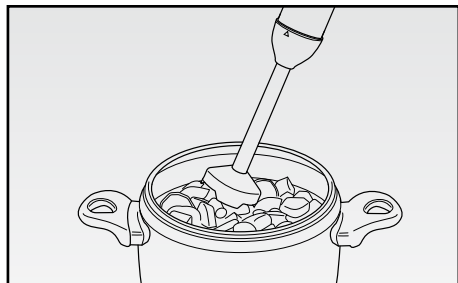

Fig. 4
- After having assembled the appliance, plug it in, put it into food (Fig. 4) and start it by pressing the minimum speed button (B). Only after few seconds, according to preparation and kind of food, it is possible to set a higher speed increasing it gradually by rotating the apposite top dial (A). According to use, it is possible to set also the max speed "Turbo" by pressing the apposite button (C).